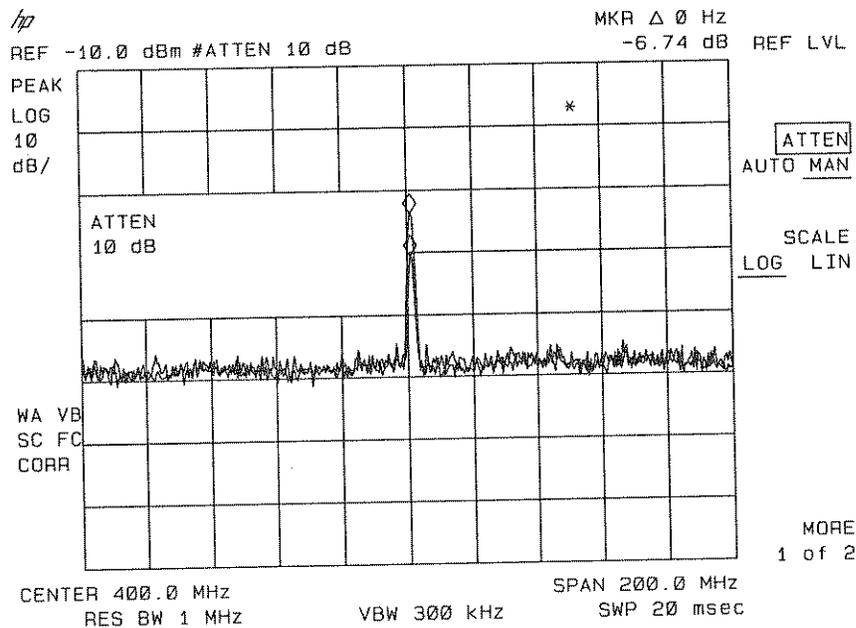
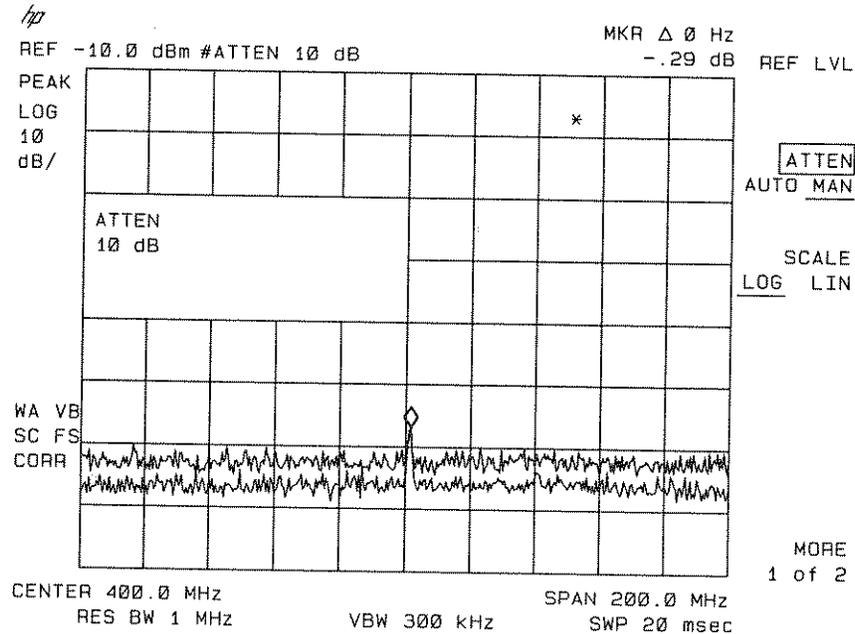

Figure 6-22. RF Attenuation of 10 dB
Figure 6-23. No Harmonic Distortion
5. Next, increase the RF attenuation by 10 dB, press **AMPLITUDE**, **ATTEN AUTO MAN**, and the step up key (**▲**) once. (See Figure 6-22.)
If the responses in trace A and trace B differ, as in Figure 6-22, attenuation is required. If the distortion was not caused internally, there would be no change in the signal level. For example, the signal amplitude in Figure 6-23 is not high enough to cause internal distortion in the analyzer.